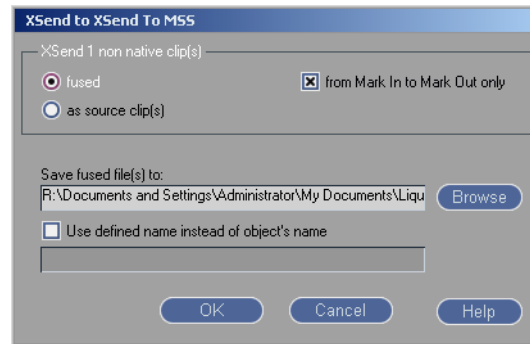

Figure 3-37: XSend to XSend to MSS dialog
2. When the XSend to XSend To MSS dialog appears, leave settings as default and click OK (see Figure 3-37 on page 37).